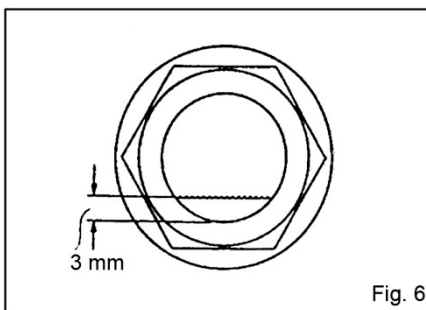

Fig. 6
- Just before the oil level, which can be visible in the oil gauge window, is decreasing lower than 3 mm when the power tool is held upright, feed oil without fail. (Fig. 6)